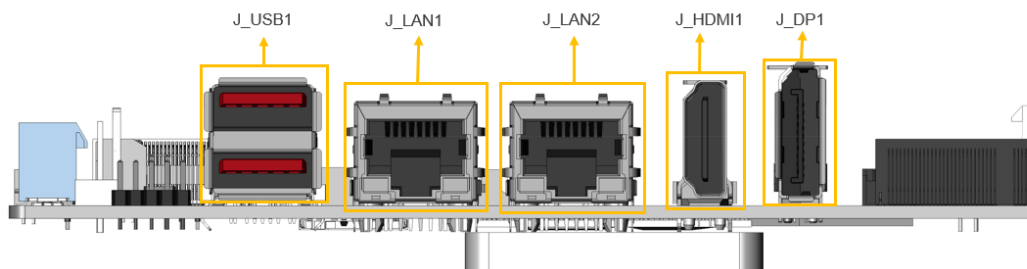

Figure 3-27: External Peripheral Interface Connector
Figure 3-27 shows the WAFER-EHL external peripheral interface connector (EPIC) panel. The EPIC panel consists of the following:
- CN Location:** See Figure 3-27